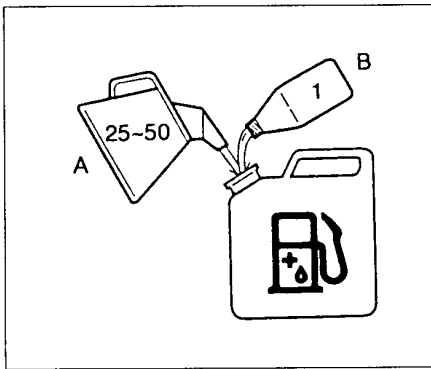

Fig. 2-1
### Fuel (Fig. 2-1)
### CHAIN OIL (Fig. 2-1 B)
Turn the adjusting screw (1) counterclockwise to decrease the quantity and turn it clockwise to increase the quantity. (Fig. 2-1 C)